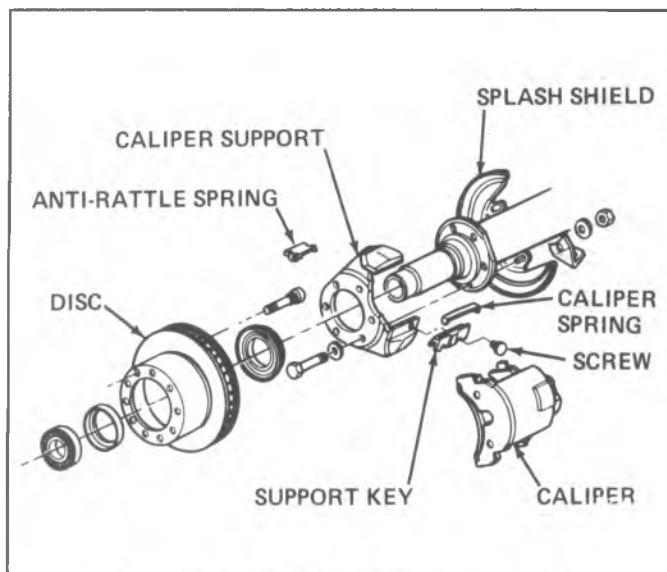

Fig. 5-32--Bendix Rear Disc Brake Assembly
6. Remove the inboard shoe from the steering knuckle or rear caliper support (fig. 5-32). Remove and discard the inboard shoe clip. Remove the outboard shoe from the caliper. It may be necessary to tap the